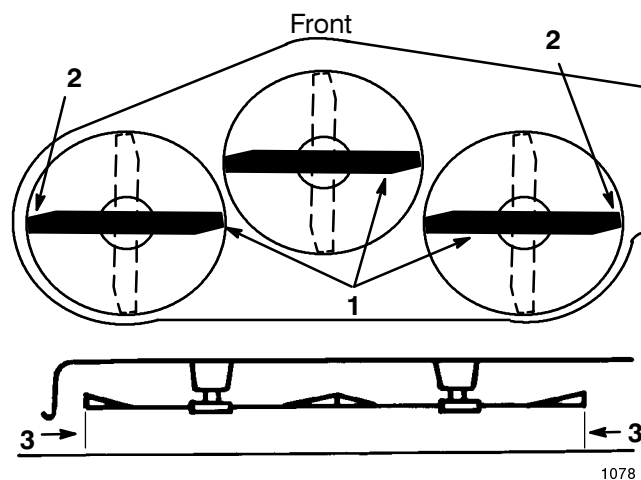

Figure 53
3. Carefully rotate blade(s) side to side (Fig. 53). Measure between the outside cutting edges and the flat surface (Fig. 53). If both measurements are not within $3/16"$ (4.762mm), an adjustment is required; refer to steps 4 and 5.